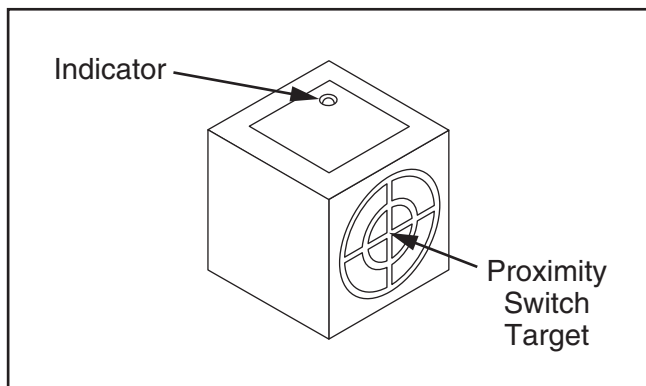

Figure 27. Typical proximity switch components.
10. Touch X-axis proximity switch target (see **Figure 27**) with scrap piece of iron or steel.